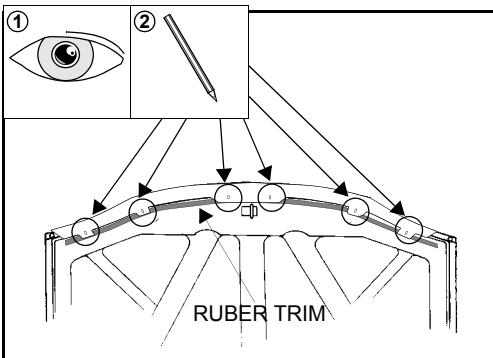

Figure 2.
2. Trial fit Hood Protector centrally onto hood. Note the slots in the Hood Protector tags that correspond to the rubber trim retaining plugs in the underside of hood, as shown in figure 2. Remove the Hood Protector.